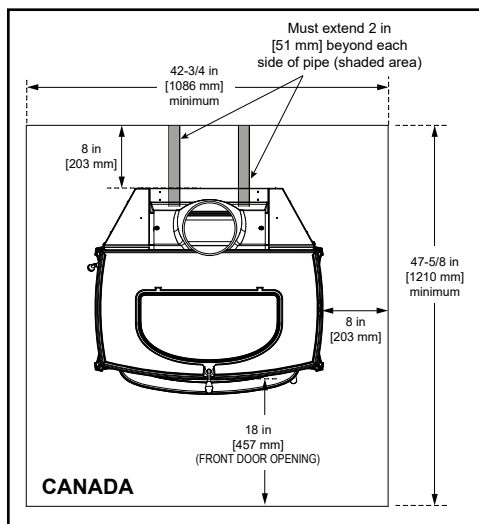

Figure 3.7
In Canada, similar floor protection must be provided 18" (457 mm) in front and 8" (203 mm) from the sides and rear of the appliance, Figure 3.7
***EXCEPTION:** Non-combustible floor protections must extend beneath the flue pipe when installed with horizontal venting and extend 2" (51 mm) beyond each side, Figure 3.7.